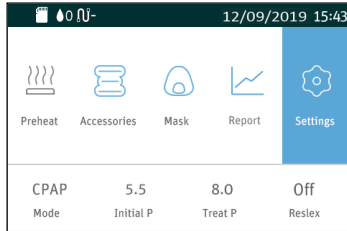

Fig. 15-1
(1) Insert the Cellular Module into the device, and turn on the device. The device screen displays the Main Interface shown in Fig. 15-1.
(1) Insert the WiFi kit into the device, and turn on the device. The device screen displays the Main Screen shown in Fig. 15-1. Turn **the Knob**  until the cursor is on the icon , and the screen displays the Initial Setup Interface shown in Fig. 15-3. Press **the Knob** , and the first option on the Initial Setup Interface turns blue, as shown in Fig. 15-4.